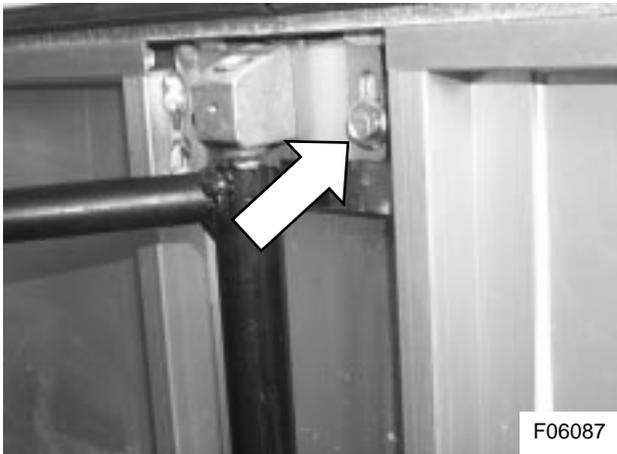

Figure 32: Height adjustable mounting brackets
- 3) Undo the pantograph to doorframe mounting bolts. Readjust the position of the door panel so that the top line is flush with the adjacent body panels and doors (see Figure 32 for adjuster brackets). Retighten bolts to 6.5 ft.lbf (9 Nm).